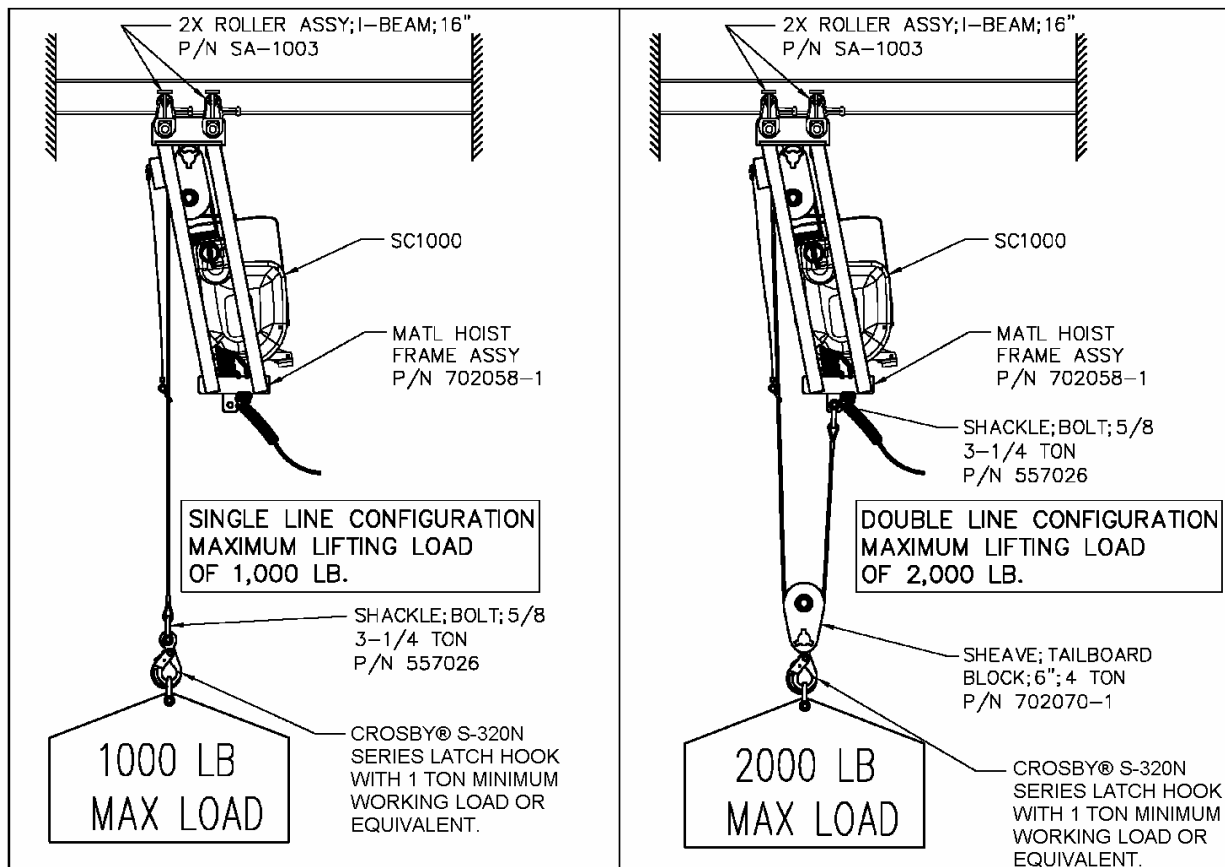

Figure 6.
1. To lift larger loads, the line can be doubled using a tailboard block allowing the lifting of a maximum of 2000 lb at one-half the rated speed of the hoist. Single line loads travel at 35 fpm. Doubled line loads travel at 17 fpm. Refer to figure 6 illustrating both the single and double line configuration. The doubling line feature requires additional consideration to ensure the support structure is